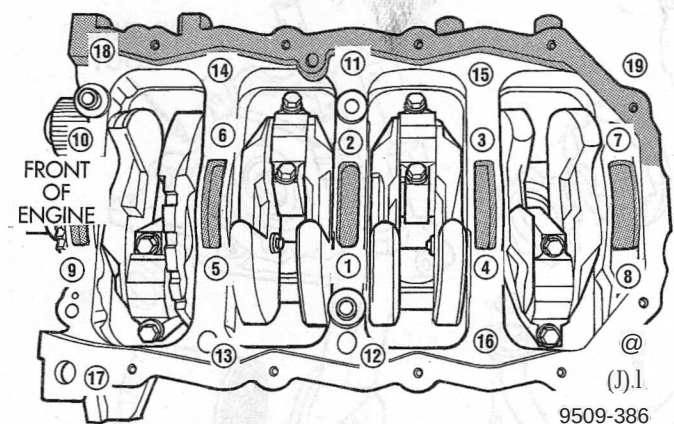

Fig. 84 Main Bearing Caps/Bedplate Torque Sequence
(6) Before installing the bolts the threads should be oiled with clean engine oil, wipe off any excess oil.
(7) Install main bearing bedplate to engine block bolts 11, 17 and 20 finger tight. Tighten these bolts down together until the bedplate contacts the cylinder block.
(8) To ensure correct thrust bearing alignment, perform the following steps:
- Step 5: Install and tighten bolts (1 - 10) in sequence shown in (Fig. 84) to 41 N'm (30 ft. lbs.).
(9) Tighten bolts (1 - 10) again to 41 N'm (30 ft. lbs.) +1/4 turn in sequence shown in (Fig. 84).
(10) Install main bearing bedplate to engine block bolts (11 through 20), and torque each bolt to 28 N'm (20 ft. lbs.) in sequence shown in (Fig. 84).
(11) After the main bearing bedplate is installed, check the crankshaft turning torque. The turning torque should not exceed 5.6 N'm (50 in. lbs.).
(12) Install balance shaft assembly.
(13) Install oil pump, timing belt and covers.
(14) Install oil pan and oil filter.
(15) Install crankshaft rear oil seal. Refer to procedure in this section.
(16) Install drive plate. Apply Mopar®Lock & Seal Adhesive to bolt threads and tighten to 95 N'm (70 ft. lbs.).
(17) Attach transaxle to engine. Tighten attaching bolts to 101 N'm (75 ft. lbs.).
(18) Install engine assembly.